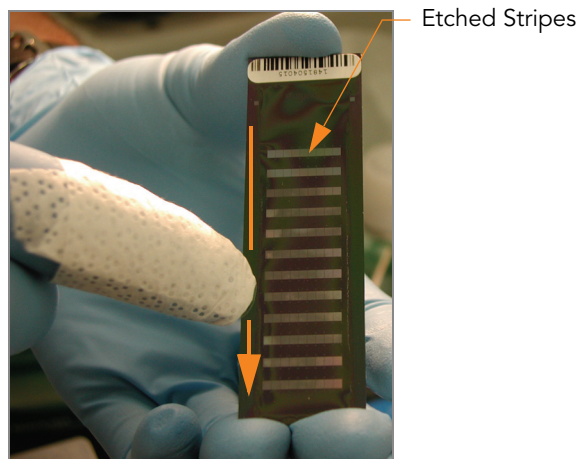

Figure 222 Wiping Edges of BeadChip
1. To clean the BeadChips, wrap a Prostat EtOH presaturated wipe around your index finger. Place the wipe against the edge of BeadChip, no further than 2 mm from the edge of the slide (Figure 222).
2. Wipe along the edge of each BeadChip five or six times (Figure 222), until the surface is clean and smooth and no streaks are visible.